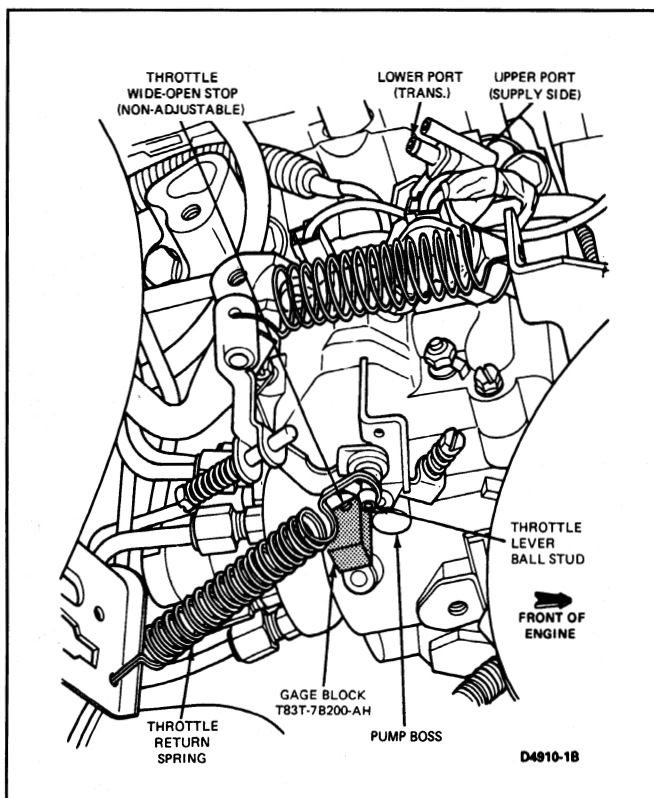

FIG. 7 VRV Gage Block Installation
3. Remove the throttle return spring. Install the end of the spring over the throttle lever ball stud and the other end over the throttle cable support bracket. Insert the gage block, T83T-7B200-AH (0.515 inch), between the pump boss and the throttle wide-open stop (Fig. 7). With the spring in this position, spring force will hold the throttle lever stop against the gage block.